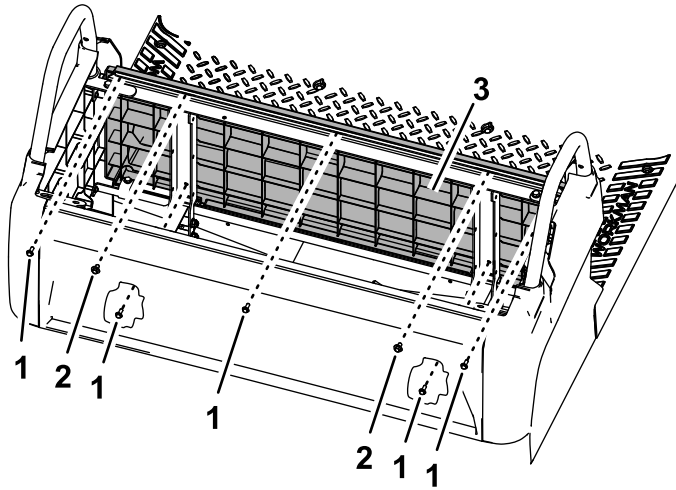

Figure 2
2. Remove the 5 bolts (#10 x 1/2 inch) and 2 washer-bolt assemblies (Figure 2).
5. Remove the rear seat-base panel (Figure 2).